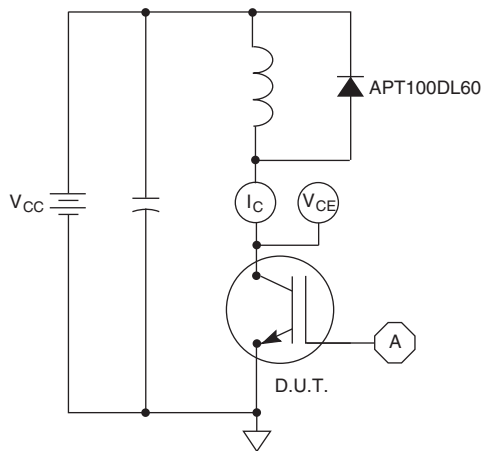

Figure 21, Inductive Switching Test Circuit
① Repetitive Rating: Pulse width limited by maximum junction temperature.
② For Combi devices, I_{ces} includes both IGBT and FRED leakages.
③ See MIL-STD-750 Method 3471.
④ E_{on1} is the clamped inductive turn-on energy of the IGBT only, without the effect of a commutating diode reverse recovery current adding to the IGBT turn-on loss. Tested in inductive switching test circuit shown in figure 21, but with a Silicon Carbide diode.
⑤ E_{on2} is the clamped inductive turn-on energy that includes a commutating diode reverse recovery current in the IGBT turn-on switching loss. (See Figures 21, 22.)
⑥ E_{off} is the clamped inductive turn-off energy measured in accordance with JEDEC standard JESD24-1. (See Figures 21, 23.)
⑦ R_G is external gate resistance not including gate driver impedance.